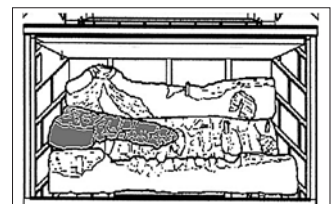

Figure 38 Left center log
4. Place the right side center log in position locating it on the two locating pins on the left hand side of the ash bed with its "nose" resting at the center of the ash bed. See figure 38.